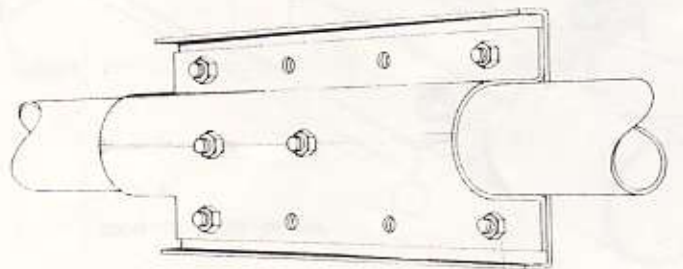

Figure 3
Select the boom-to-bracket clamp parts (items 2 and 3). Loosely assemble them on the drilled ends of the two boom sections (item 8) using the 1/4"-20 x 3/4" bolts and the 1/4" nuts and internal lockwashers. Secure the boom to the bracket using the two 5/16"-18 x 2 3/4" screws, nuts, and lockwashers provided. See Figure 3.